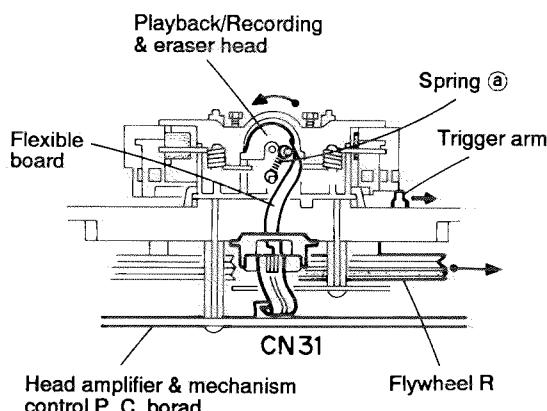
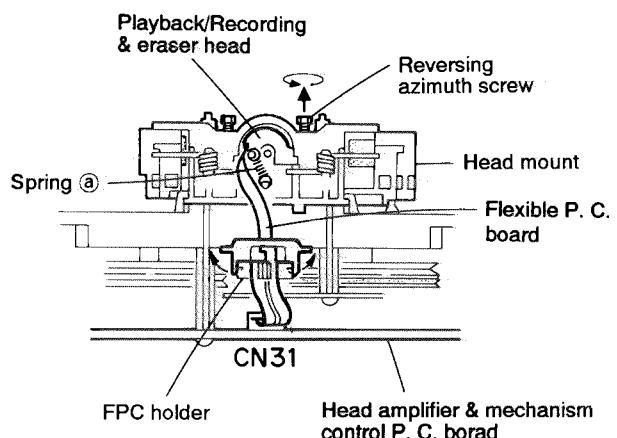

Fig. 5-20
Fig. 5-21
2. When the flywheel R is rotated in counterclockwise direction, the playback/Recording & eraser head will be turned in counterclockwise direction from the position in Fig. 5-20 to that in Fig. 5-21.
6. Remove the spring ① from behind the playback/Recording & eraser head.